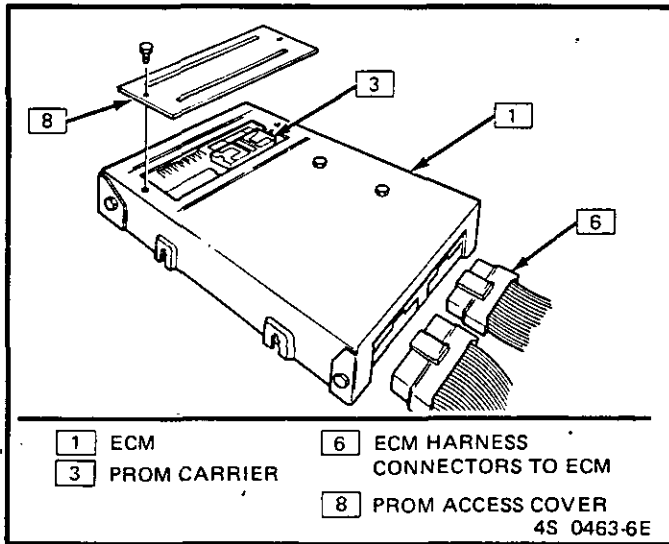

Figure C1-9 - PROM Access Cover P Series
4. ECM access cover (see Figure C1-9).